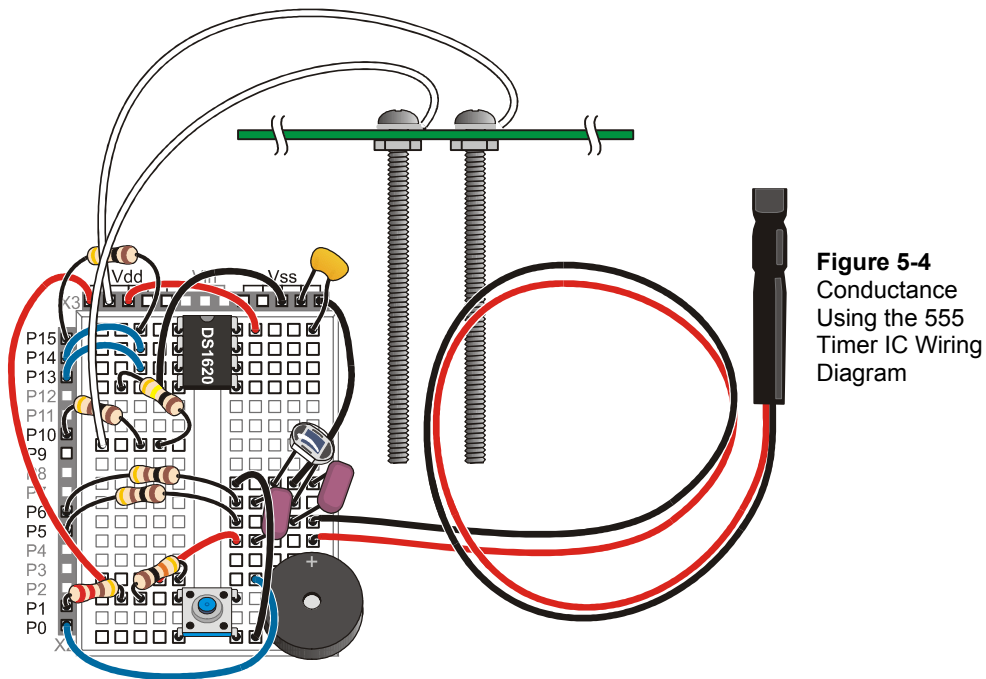

Figure 5-4
- ✓ Be attentive to follow the parts placement in the wiring diagram (Figure 5-4) since the wiring is getting tight!